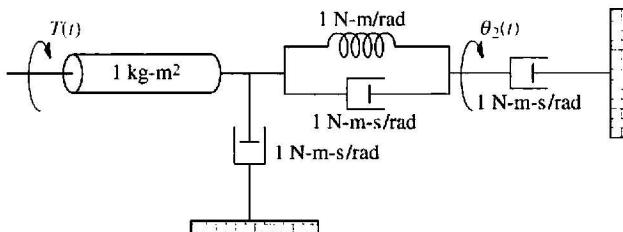

FIGURE P2.17
31. For the rotational mechanical system shown in Figure P2.17, find the transfer function $G(s) = \theta_2(s)/T(s)$ [Section: 2.6]